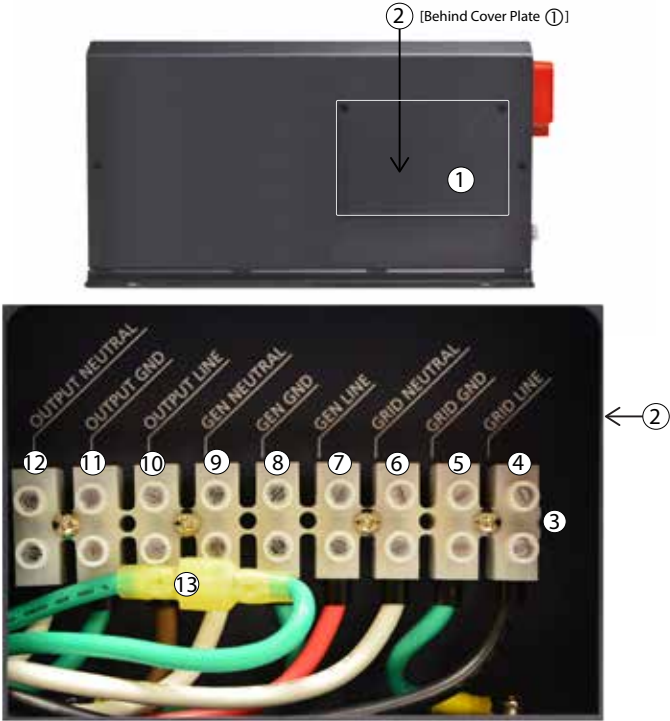

Fig 3.9 AC Input and Output
AC side layout and connection arrangement are shown in Fig 3.9.
- **Disabling Neutral to Ground Bond:** In some applications, the Output Neutral may be required to remain isolated from chassis/Ground at all times. For this, automatic Output Neutral to chassis Ground bond can be disabled by disconnecting the Male/Female Disconnect (13, Fig 3.9) located in the AC Wiring Compartment.
The AC input and output supply connections are located in a pocket protected by a cover with a removable front plate (1,2 Fig 3.9). Three 27.8mm / 1¹/₃₂" diameter holes (10A to 10C, Fig 2.1) have been provided for cable / conduit entry. Remove the caps covering the holes and install appropriate 3/4" Trade Size Fitting for routing the AC input and output wires/conduits.
Screw down type of terminal block (3, Fig 3.9) is used for connecting the wires. The hole size for wire entry is 6 mm and set screw size is M4. It can accommodate conductors with solid or multi-stranded wire size range of AWG #6 to AWG #20.